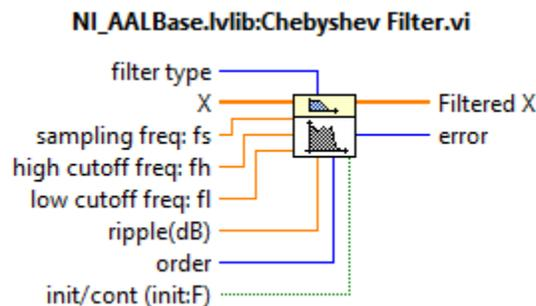

Figure 16: Chebyshev Filter
1. First you need to pass the received signal through a Band Pass Filter to remove interference from unwanted signals on frequencies near f_c . So, pass the array returned by the **Fetch Rx Data.vi** through a Band Pass Filter. Note that this array is a complex vector with Real (In-Phase) and imaginary (Quadrature) parts. Use a **Chebyshev** filter (Functions > Signal Processing > Filters) which is shown in Figure 16. Right click on the icon and enable **All Constants** from the **Create** menu and set up the filter as a fifth-order Band Pass Chebyshev filter with a high cutoff frequency of 105 kHz and a low cutoff frequency of 95 kHz. The default passband ripple is 0.1 dB which is acceptable for our case. The sampling frequency input to the filter should be the **actual IQ rate** obtained from the **Configure Signal.vi** (outside of the while loop). Place the wire connection between the output of the **Get Waveform Components**, **Y** and the input **X**.